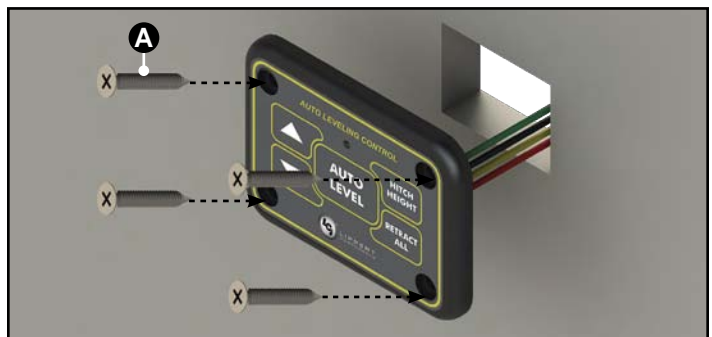

Fig.25
4. Feed the touch pad harness through this hole and run it to the compartment where the controller is mounted (Fig.25). Plug the harness into the appropriate connector on the controller.